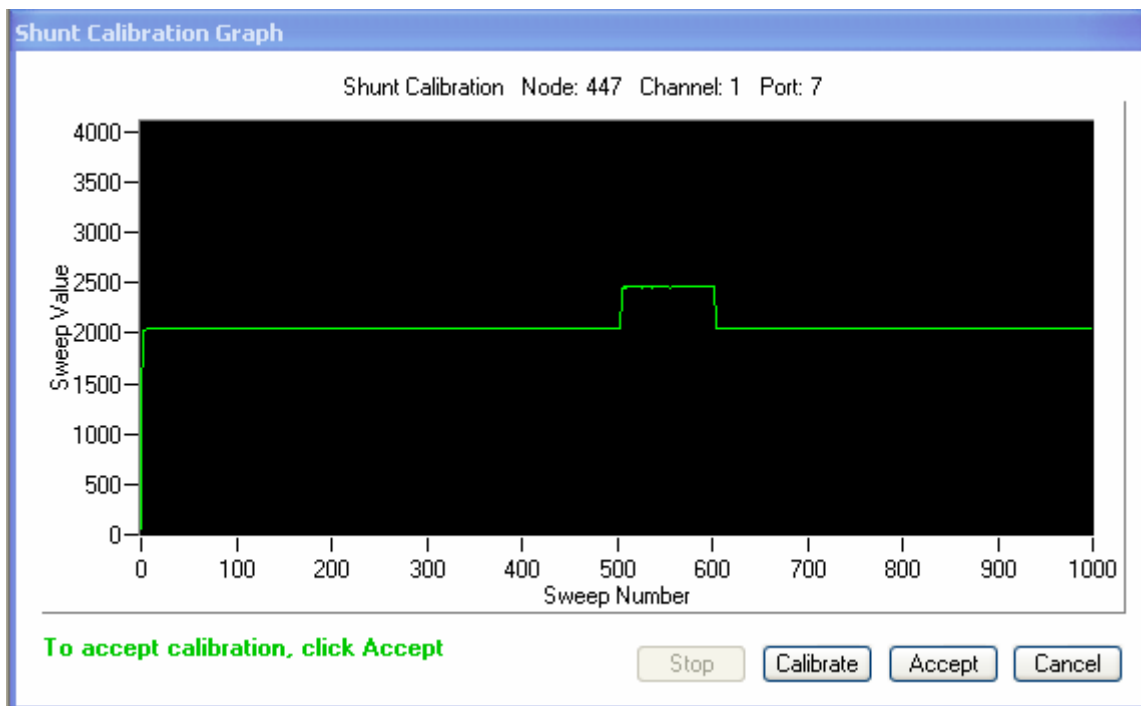

Figure 3
- The resultant graph will appear as exemplified in Figure 3 and a message “To accept calibration, click Accept” will appear.